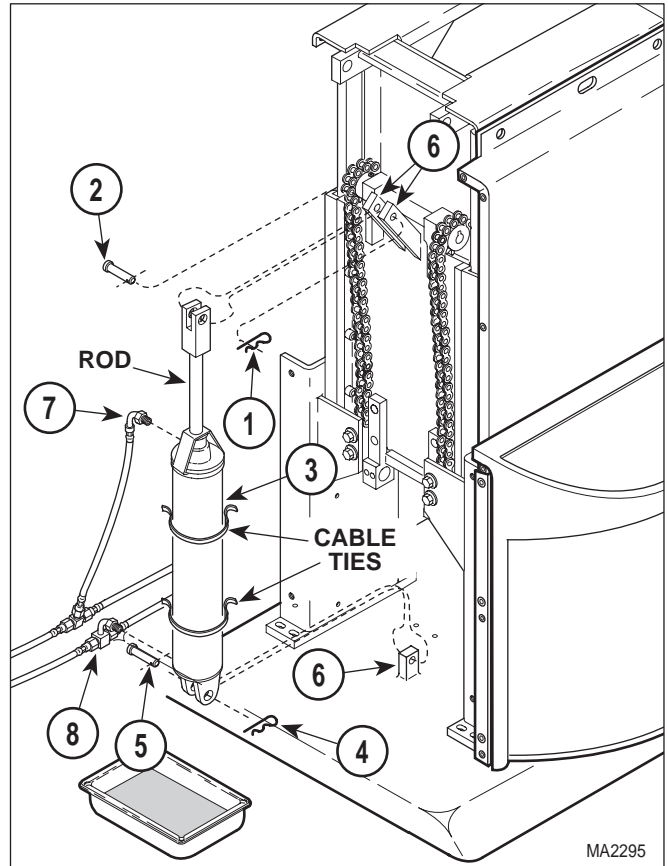

Figure 4-19. Base Cylinder Removal / Installation
Make sure table top is properly secured from lowering or tipping over when base cylinder is disconnected from table top. Clevis pin (2, Figure 4-19) should not have any weight on it if table top is supported properly. Failure to have table top properly secured could result in serious personal injury or death.
- (11) Remove hitch pin clip (1, Figure 4-19) and clevis pin (2) from rod end of base cylinder (3).
- (12) Remove hitch pin clip (4), clevis pin (5), and partially separate base cylinder (3) from brackets (6).
- (13) Cut two cable ties securing hose assembly (7) to base cylinder (3).
- (14) Disconnect hose assembly (7) from base cylinder (3).
- (15) Place rags under base tee (8).
- (1) Position base cylinder (3, Figure 4-19) on table.
- (2) Connect base tee (8) to base cylinder (3).
- (3) Connect hose assembly (7) to base cylinder (3).
- (4) Secure hose assembly (7) to base cylinder (3) with two cable ties.